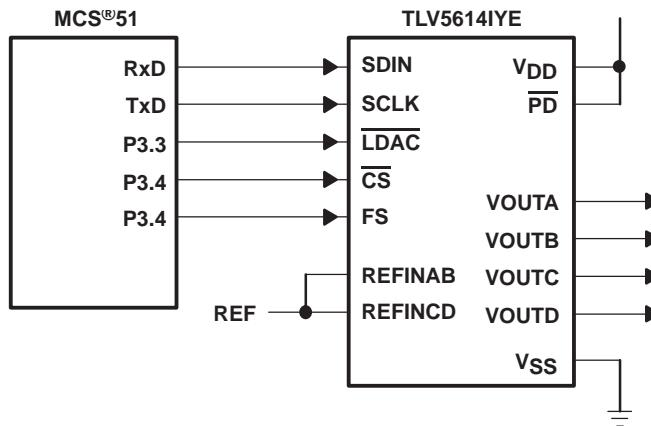

Figure 19. TLV5614IYE Interfaced With MCS®51
Figure 19 shows an example of how to connect the TLV5614IYE to an MCS®51 Microcontroller. The serial DAC input data and external control signals are sent via I/O Port 3 of the controller. The serial data is sent on the RxD line, with the serial clock output on the TxD line. Port 3 bits 3, 4, and 5 are configured as outputs to provide the DAC latch update (LDAC), chip select (CS) and frame sync (FS) signals for the TLV5614IYE. The active low power down pin (PD) of the TLV5614IYE is pulled high to ensure that the DACs are enabled.